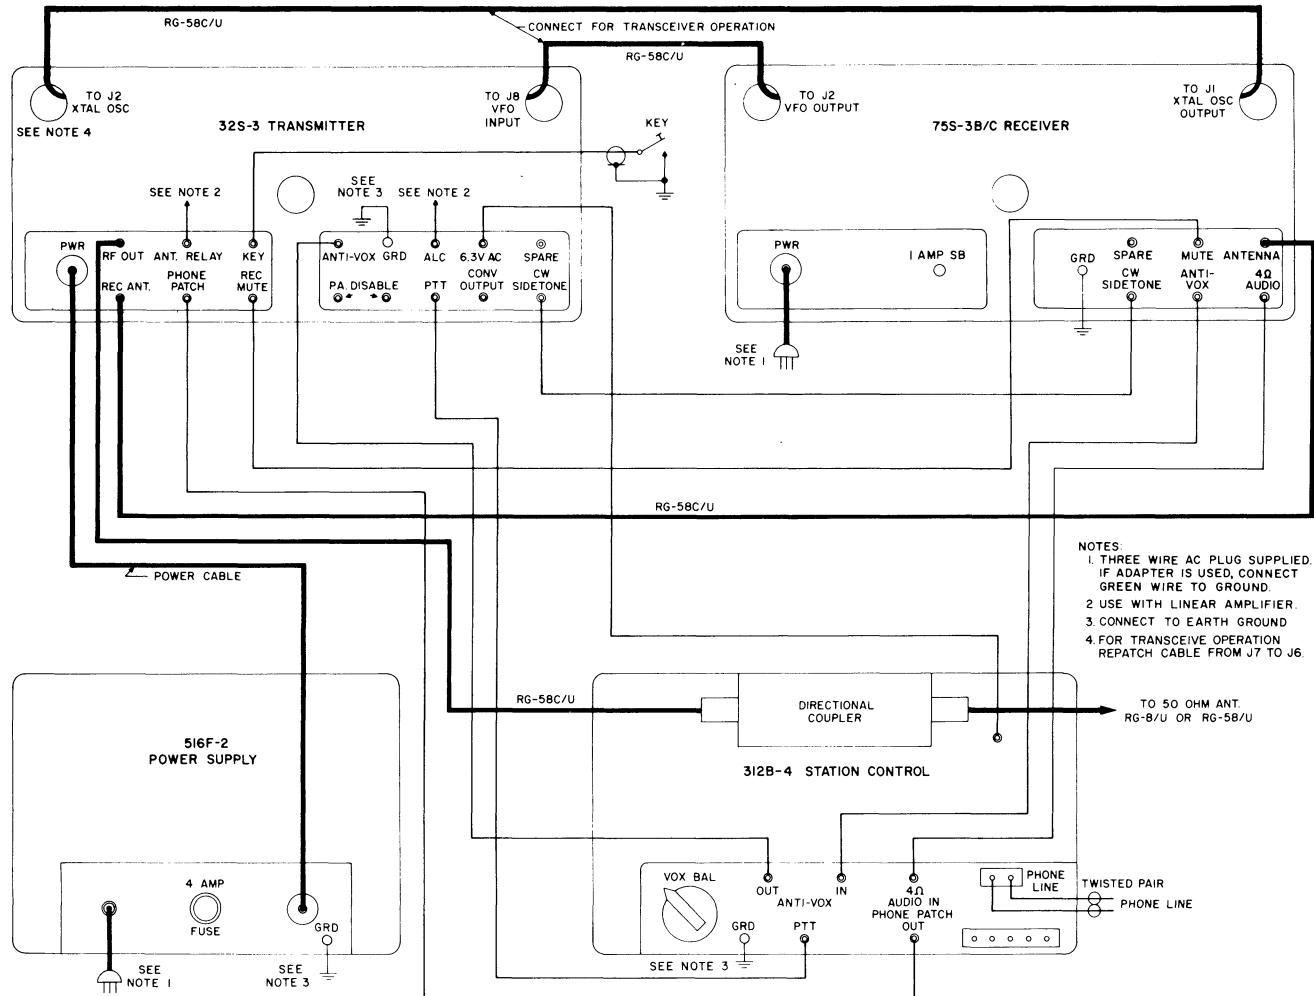

Figure 1-2. Station Interconnections
1.2.2 CABLING WITH 32S-3 TRANSMITTER. Figure 1-2 shows a complete station interconnection for a 75S-3B/C Receiver, 32S-3 Transmitter, and 312B-4 Station Control. The RG-58C/U cables indicated are
- Connect the 32S-3 and 75S-3B/C as shown in figure 1-2.